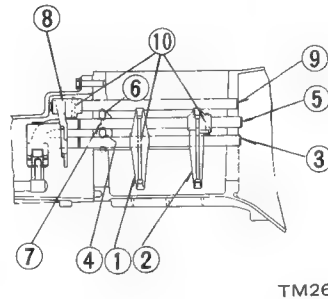

Fig. TM-48 Installing shift rod and shift fork
1. Align 1st-2nd shift fork ① and 3rd-4th shift fork ② with the grooves in respective coupling sleeves and reverse-shift fork with the groove in reverse gear. See Figure TM-48.
2. Insert 1st-2nd shift rod ③ into position and drive in pin ⑩. With 1st-2nd shift rod in neutral position,